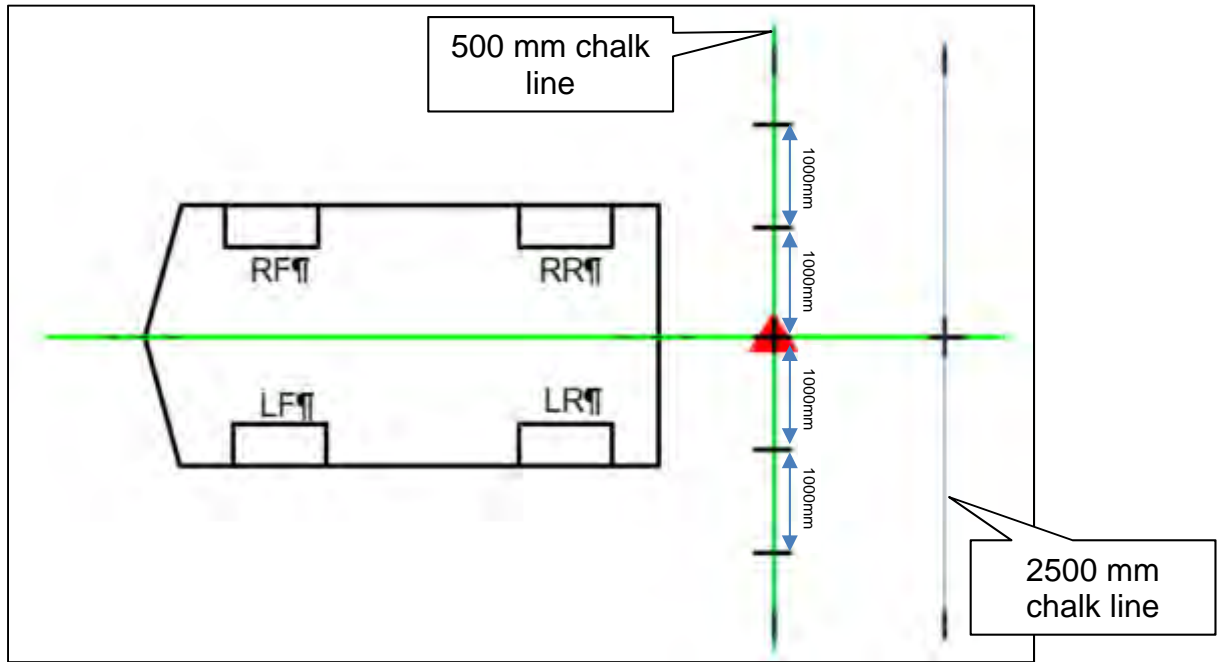
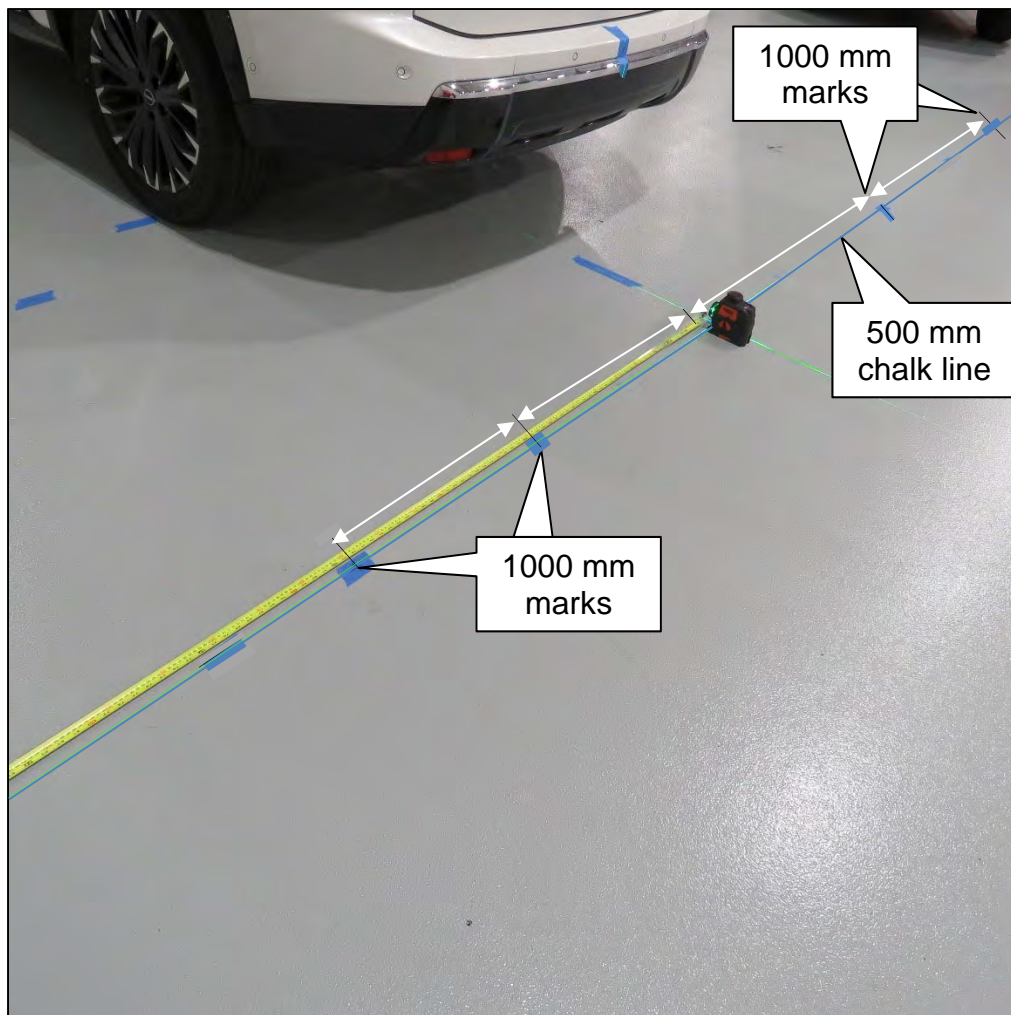

Figure 86
Figure 87
57. Measure and mark 1000 mm increments, as shown in Figure 86 and Figure 87.